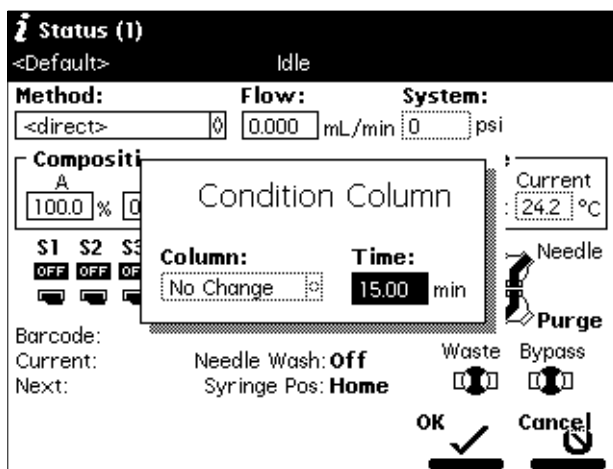

Figure 2-9 Condition Column Dialog Box
4. Select **Condition Column**, then press **Enter**. The Condition Column dialog box appears (Figure 2-9).